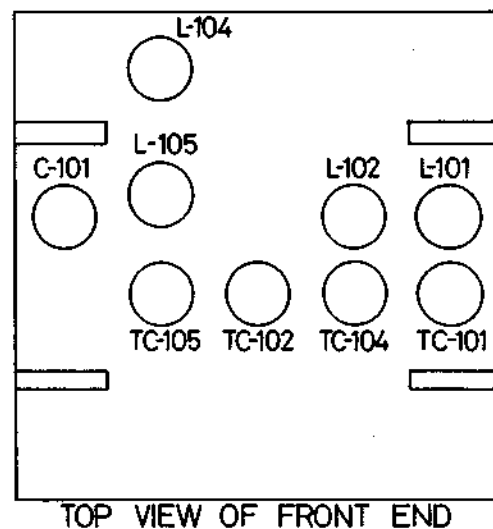

Fig. 4
- (c) Connect the Distortion Meter to "TAPE-REC" terminal on rear panel (See Fig. 4).
Adjust L-105 of the front end (see Fig. 4) so that the Distortion Meter Level indicates maximum.
Adjust TC-103 (see Fig. 4) on the front end so that the Distortion Meter Level indicates maximum.
- (c) Adjust the cores of L-101 and L-102 on the front end of Model AA-6600 (see Fig. 4) so that the Distortion Meter Level indicates maximum and the distortion factor is minimum.